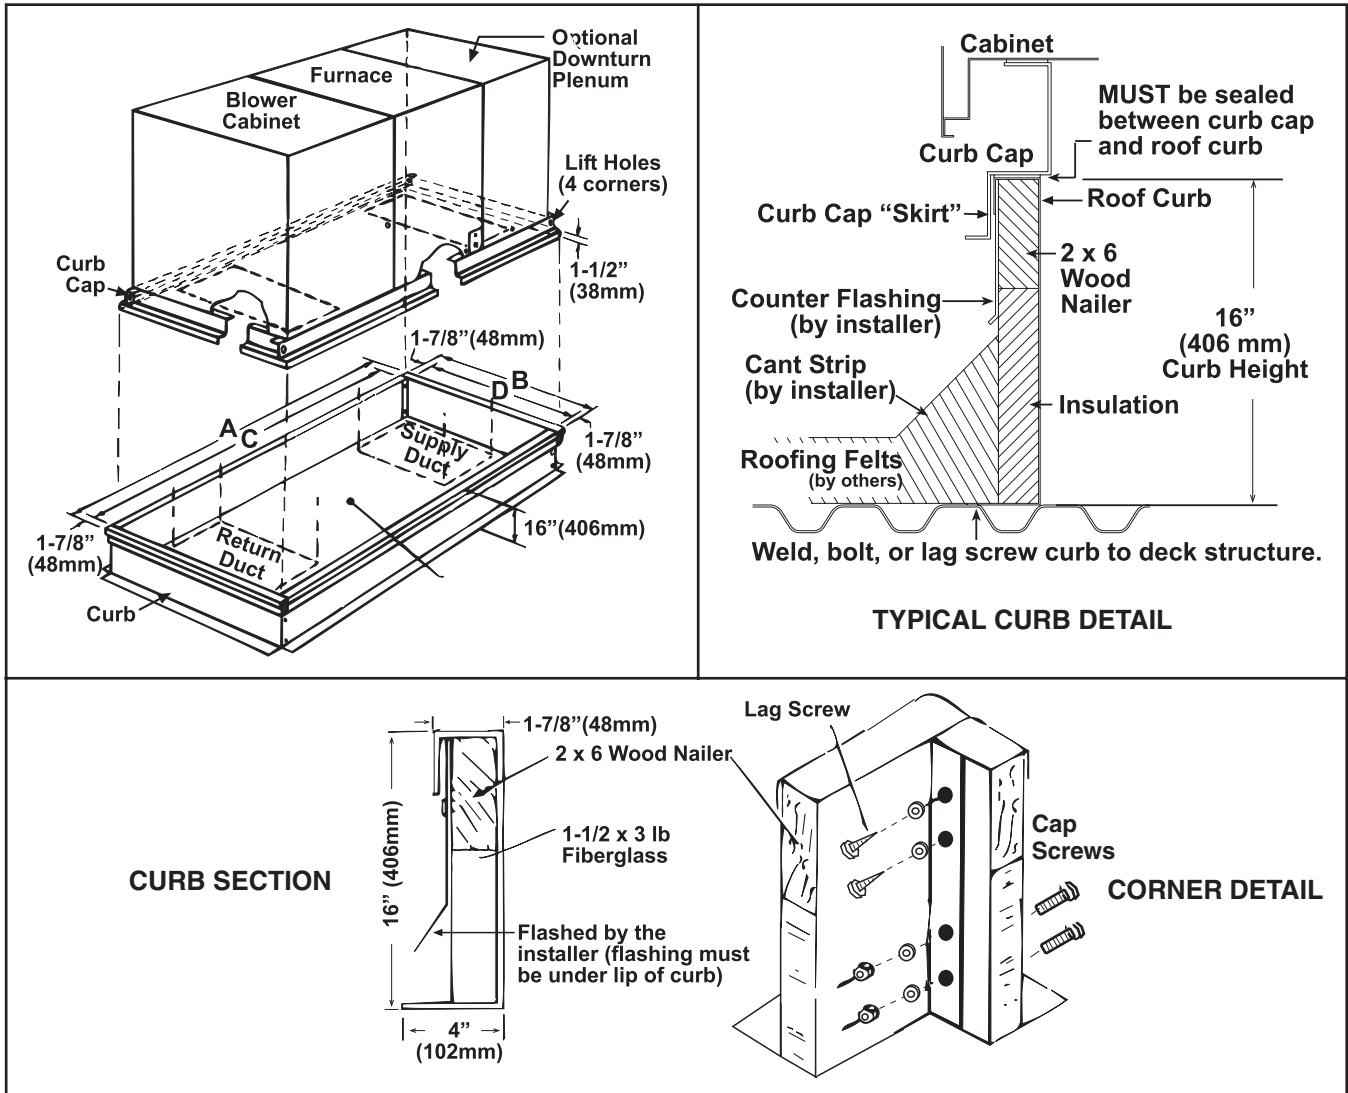

Figure 3. Optional Curb Assembly (Refer to Table 7)
1. Position and connect cross rails and side rails as shown in Figure 3.
NOTE: The system can have a variety of configurations that affect installation. Figure 3 shows a unit with an option AQ5 or AQ8 downturn plenum, which is factory-installed as part of the packaged system. If the system does not have a downturn plenum, the discharge is horizontal.